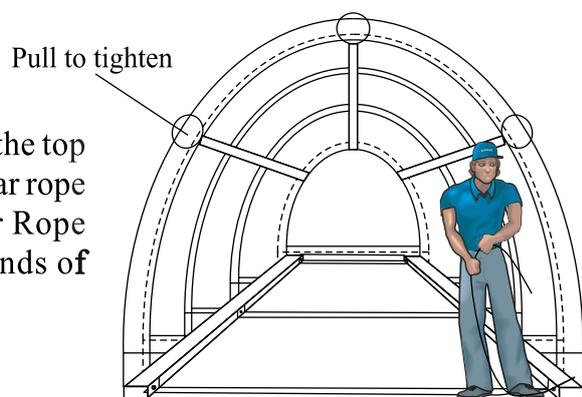
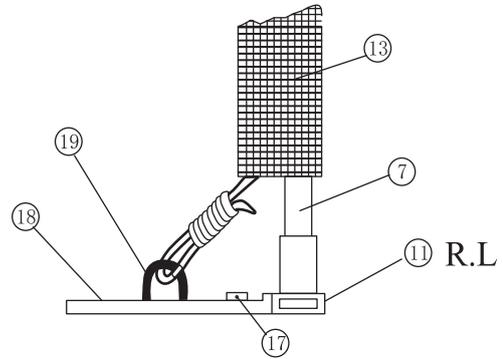

Figure 4-1
Figure 4-2
Step 1. See figure 4-1 and figure 4-2. Pull the top cover over the frame. Place the front and rear rope of the top cover through the Top Cover Rope Tensioning Rings (No.19) at the outer ends of the base rails.
Step 2. Position the top cover so that there is 10cm overhang at both the front and rear ends. Pull tight at the positions marked "O" in figure 4-1. At this point adjust the top cover on all sides so that it is positioned evenly over the base rail at sides and ends. You may now place some initial tension on the top cover by pulling the ropes at the rings (No. 19). Do not over tighten at this point as you may have to move the top cover slightly in either direction.